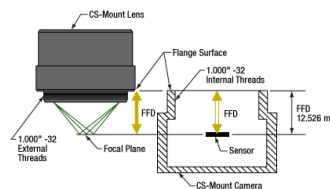

Figure 2: CS-mount lenses and cameras have the same flange focal distance (FFD), 12.526 mm. This ensures light through the lens
- **"Frames per Trigger" Set to 1**: Then the camera will operate in asynchronous triggered acquisition mode (Figure 2).
Figure 2 shows plots of the different noise components, including dark shot noise at three sensor temperatures, as a function of exposure time for three photon fluxes. The plots show that dark shot noise is not a significant contributor to total noise except for low signal (and consequently long exposure) situations. While the photon flux levels used for the calculations are given in the figure, it is not necessary to know the exact photon flux level for your application. Figure 2 suggests a general metric based on exposure time that can be used to determine whether a cooled camera is required if
Figure 2: Noise from all sources as a function of exposure for three different photon fluxes: (a) low, (b) medium, and (c) high. In (c) the signal and photon shot noise saturate above approximately 20 seconds because the pixel becomes saturated at the corresponding incident photon levels. A quantum efficiency of 60% was used for the calculations. Note that these plots use logarithmic scales for both axes.